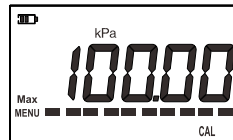

Figure7
- (3) To calibrate the lower range point: Use the pressure source to control the lower range pressure, for this example 0 kPa is the lower point. After the reading is stable, push  to confirm, then the screen will prompt the user for the next calibration point, which in this example is 100kPa (the upper range), as shown in Figure 7. User can also change this calibration point by inputting the desired value. If there is no need to adjust, push  to continue.